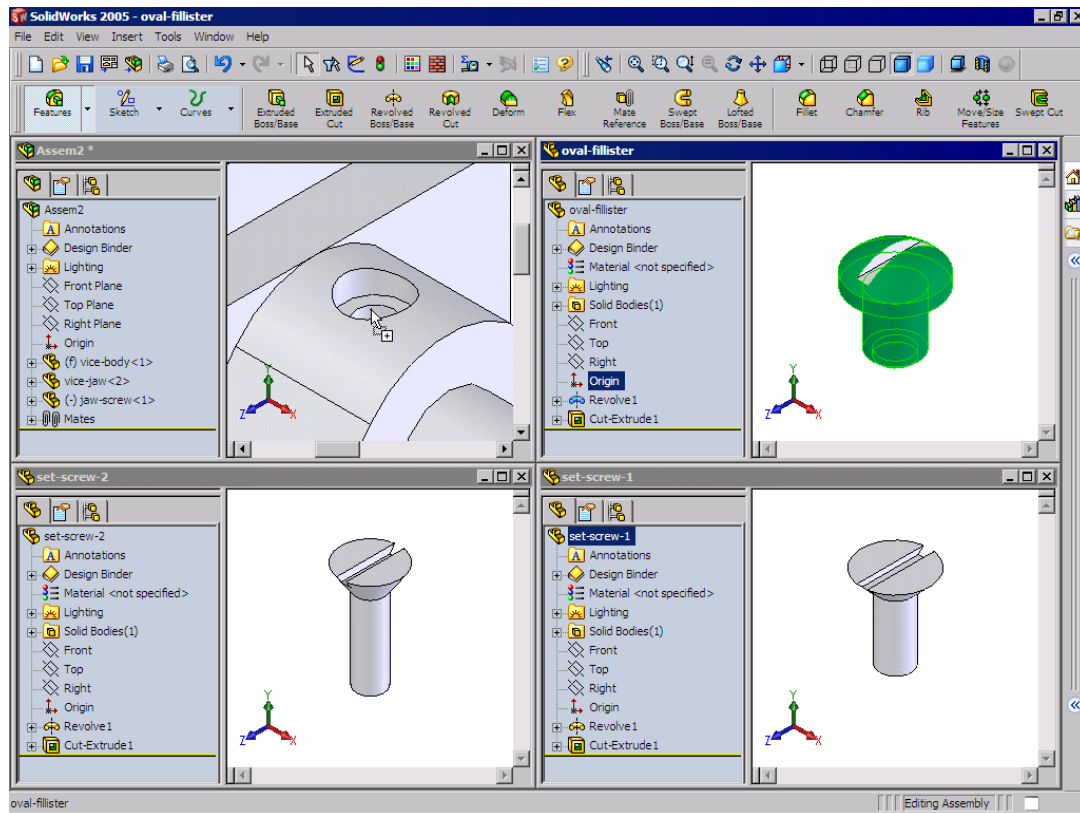

Figure 10-72 Dragging the Oval Fillisters in the assembly using feature-based mates
3. Select the **Revolve1** feature from the **FeatureManager Design Tree** of the Oval Fillister part document. Drag the cursor to place the component in the assembly, as shown in Figure 10-72.